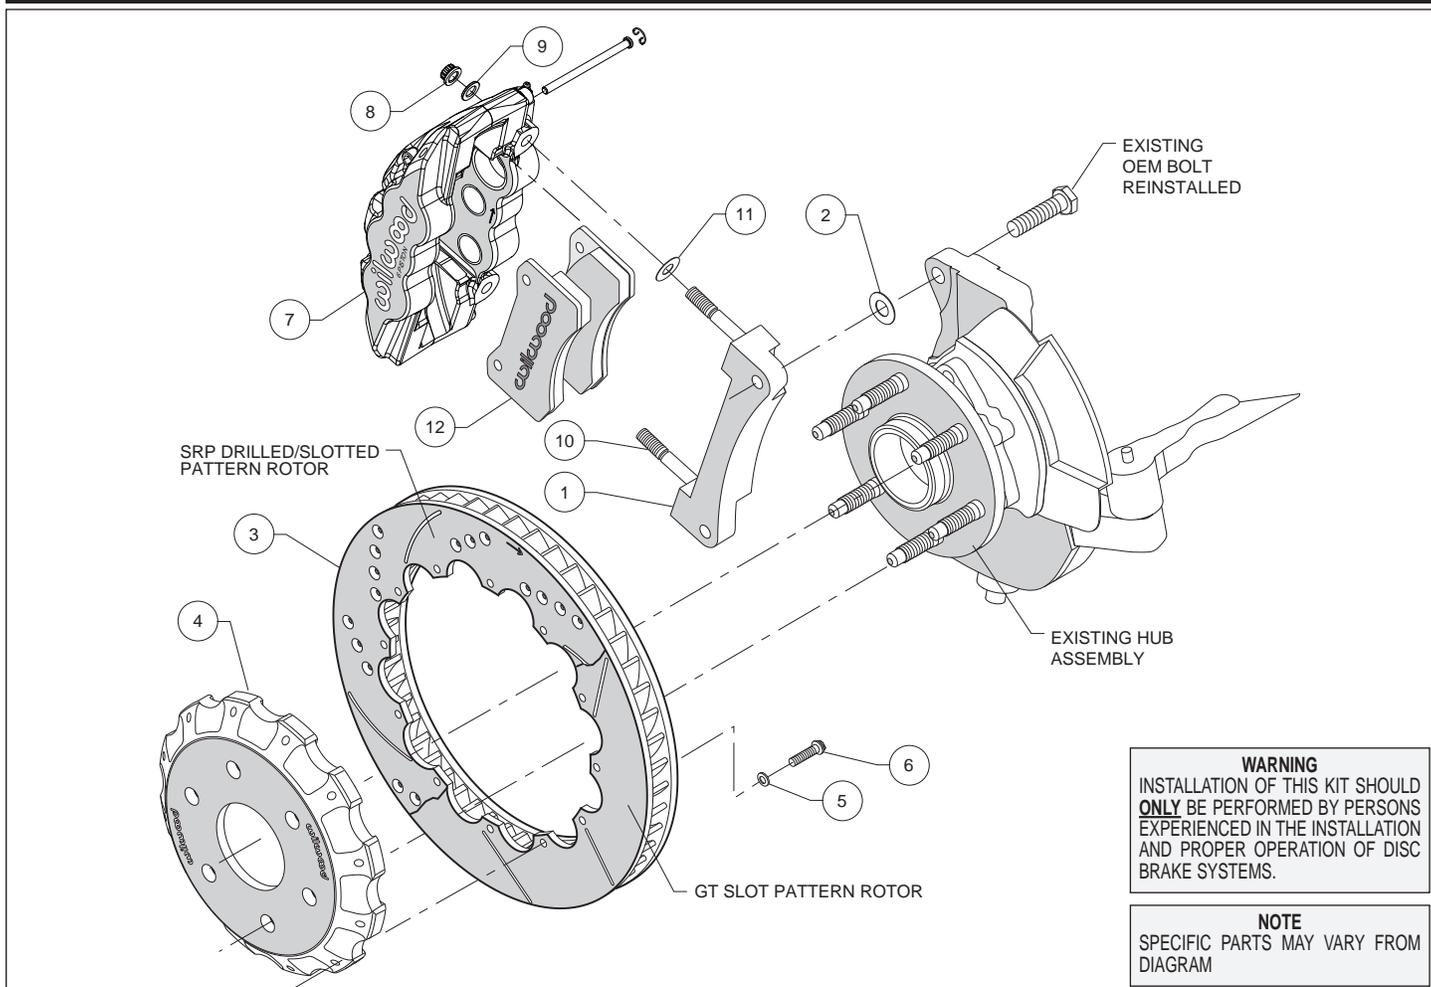
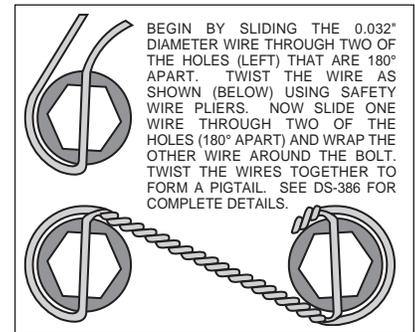

Figure 1. Typical Installation Configuration
Figure 4. Safety Wire Diagram
- 2007 - present spindles may require light machining with a grinder to smooth parting line edge at original caliper mount ears in order for the Wilwood caliper bracket to fit. Please see figure 4, page 3 for instructions. Before assembly, examine the necessity of this modification by inspecting the spindle and bracket interface and your ability to perform this modification before assembling any parts.
- The caliper mount bracket assembly (1) should be installed first with clean, dry threads on the mounting bolts. Install the bracket on the outboard side of the spindle by sliding the original OEM bolt through the OEM mounting ear bolt hole from the backside, through washer (2) and into the bracket (1). The bracket must tighten squarely against the outboard side of the caliper mount bosses on the spindle. Inspect for interference from casting irregularities, machining ridges, burrs, etc. Use one thin shim (2) between the bracket and spindle during initial trial fitting.
- With the larger I.D. side of the rotor (3) facing away from the hat (4), bolt rotor (3) to hat (4) through the backside of the rotor using washers (5) and bolts (6). Using an alternating sequence, apply red *Loctite*® 271 to the threads and torque bolts to 140 **in-lb**. For an added measure of security, the bolts may be safety wired using standard 0.032 inch diameter stainless steel safety wire as shown in Figure 4. Please refer to Wilwood's data sheet DS-386 (available at [www.wilwood.com/Pdf/DataSheets/ds386.pdf](http://www.wilwood.com/Pdf/DataSheets/ds386.pdf)) for complete safety wire installation instructions.
- Install one shim (11) over each stud (10) on the radial mount bracket (1). Slide the caliper (7) in place over the studs and rotor and install the washer (9) and lock nut (8) to hold the caliper in place. The caliper bleed screws should be pointing up. Snug the lock nuts (8) and check that the rotor (3) is centered in the caliper (7). Add or subtract .029" shims (2) as necessary between the caliper mount bracket (1) and the caliper mount bosses on the spindle to center the caliper (7).
- Remove the two pad retaining pins from the caliper (7) by carefully popping out the pin retaining clips and sliding out the pins. Insert the brake pads (12) into the caliper from the bottom, Figure 1. With the friction material facing the rotor, secure the brake pads in place with the pad retaining pins and clips. Reinstall the caliper onto the caliper mounting bracket and temporarily tighten the lock nuts. Check that the top of the brake pad is flush with the outside diameter of the rotor. If not, adjust by adding or subtracting shims (11) between the caliper and the bracket.
- Once all clearances have been checked, remove the wheel, caliper and rotor from the spindle and hub. Secure the caliper mounting bracket (1) to the spindle using red *Loctite*® 271 on the bolt threads. Torque the bolts to manufacturer's specifications. Reinstall the rotor and again use several lug nuts to hold it in place. Lubricate caliper mounting studs and nuts with lightweight oil, reinstall the caliper, torque the caliper nuts (8) to 47 ft-lbs.